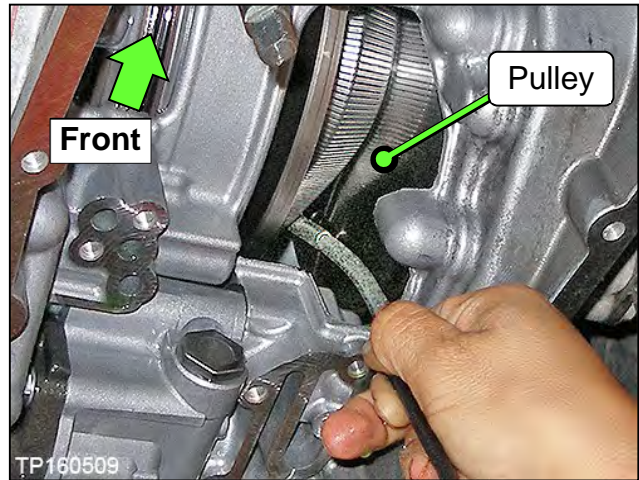

Figure 14
8. Insert the camera lens in the second location where shown in Figure 14, and then perform step 7 again.